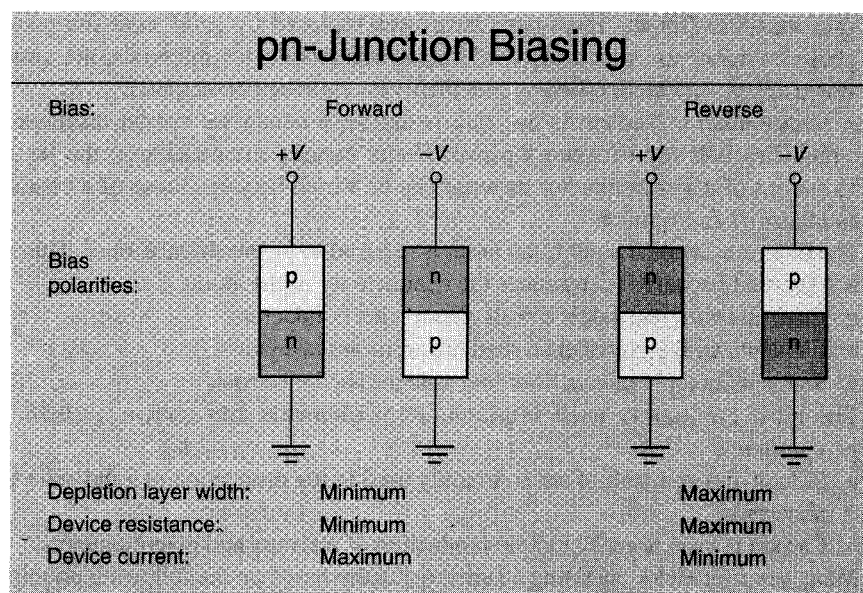

FIGURE 1.18
The voltage across a forward-biased  $pn$  junction will be approximately equal to 0.7 V for silicon and 0.3 V for germanium. When a  $pn$  junction is reverse biased, it acts essentially as an *open circuit*. These points are summarized in Figure 1.18.
29. Forward bias and reverse bias are compared in Figure 1.18.